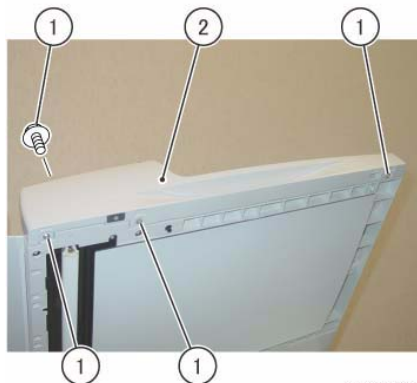

Figure 1 Remove the DADF Front Cover
5. Remove the DADF Front Cover. (Figure 1)